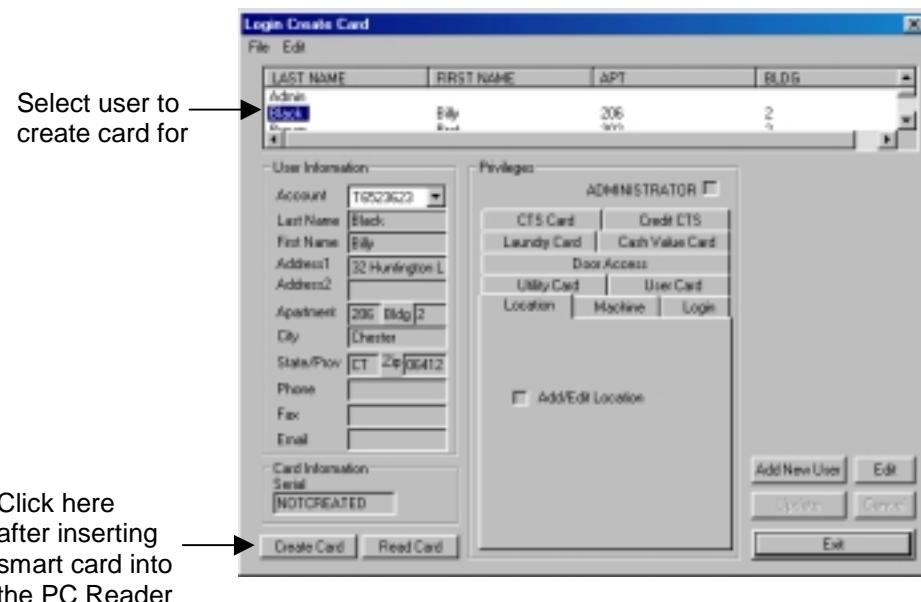

Figure 4.5 Creating a Login Card
2. In the User List Window, select the user to create a card for (Figure 4.5).